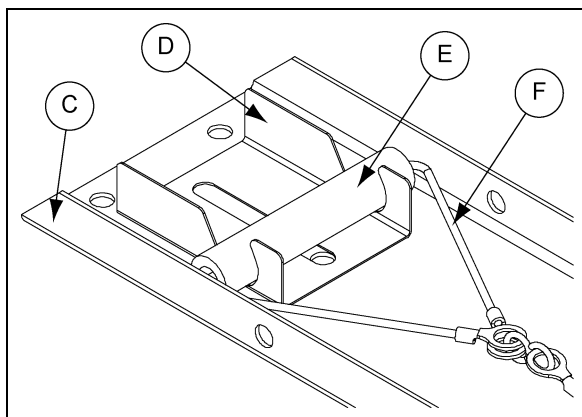

**Figure 2** Vane Axial Shutter Top
**Vane Axial Shutters:** Remove the bolt holding the catch angle. (See Figure 2.)
**Vane Axial Shutters:** Drill a 3/16" hole (B) approximately 1.00" from the edge of the frame. (See Figure 2.)